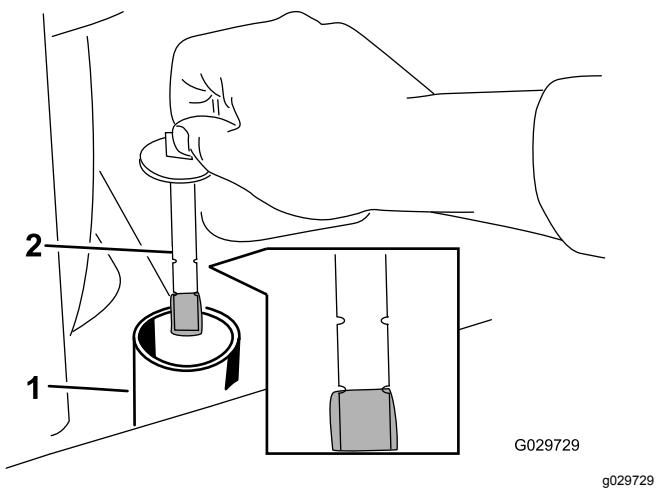

Figure 28
8. Remove the cap from the filler neck and check the fluid level on the dipstick (Figure 28).